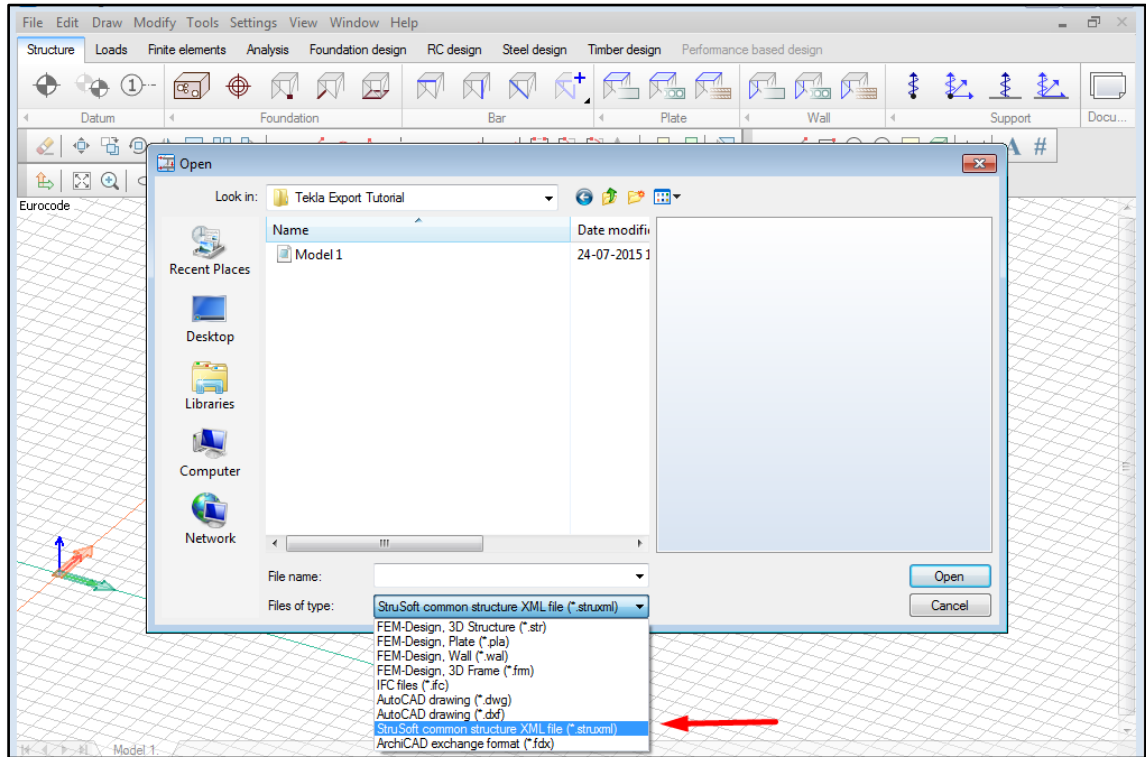

Figure 3-22
- b. Go to *File* → *Open* and browse for the struxml file type, as shown in Figure 3-22.